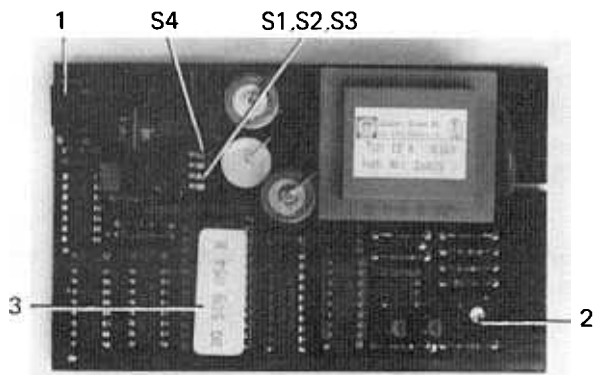

Fig. 6 Sweep printed circuit E 3
- 9. Sweep printed circuit E 3 (see Fig. 6)
(see Fig. 6)